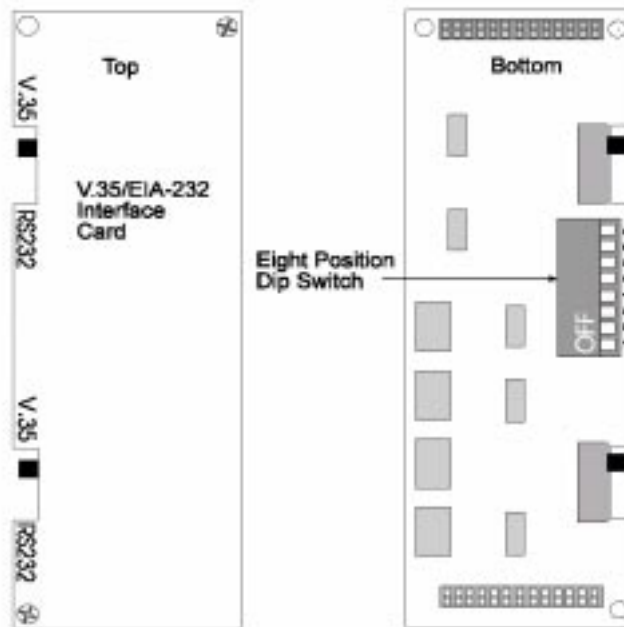

Figure 3-5. V.35 Switch Location
Remove the two screws from the port 1 interface card and pull it straight up (Figure 3-5). To re-assemble, align the interface card to the UTA220 PC board, press down, and insert the two screws.
The V.35/EIA-232 interface card has an eight-position DIP switch on the bottom (Figure 3-5). The port 2 DIP switch settings can be changed without removing the port 2 interface card. Note the orientation of the switch when changing the settings on port 2. The DIP switch allows you to transpose the Ring Indicate (RI) and Local Loopback pins (LL). Normally, RI is found on pin J and LL is found on pin L. However, these can be transposed (Table 3-2).